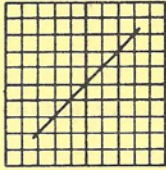

Figure 7
- g. Now connect the horizontal input to the left channel output. Run the tape to the 1 kHz section. A pattern such as Figure 7 should now appear. If not, reverse the two leads of the horizontal input. This pattern represents the "0" or near "0" phase shift pattern of the system.